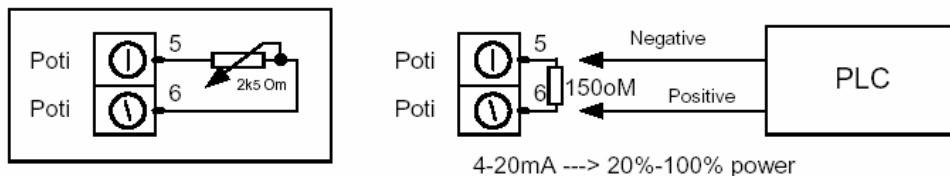

FIG 2
2. When using the PLC current output (from 4 to 20 mA) there must be a 150 Ohm resistor connected between terminals 5 and 6. The power will vary from 20% to 100% (see Fig. 2). Note: If the resistor of 150 Ohm is missing it may cause failure in the analogue input regarding the current signal.